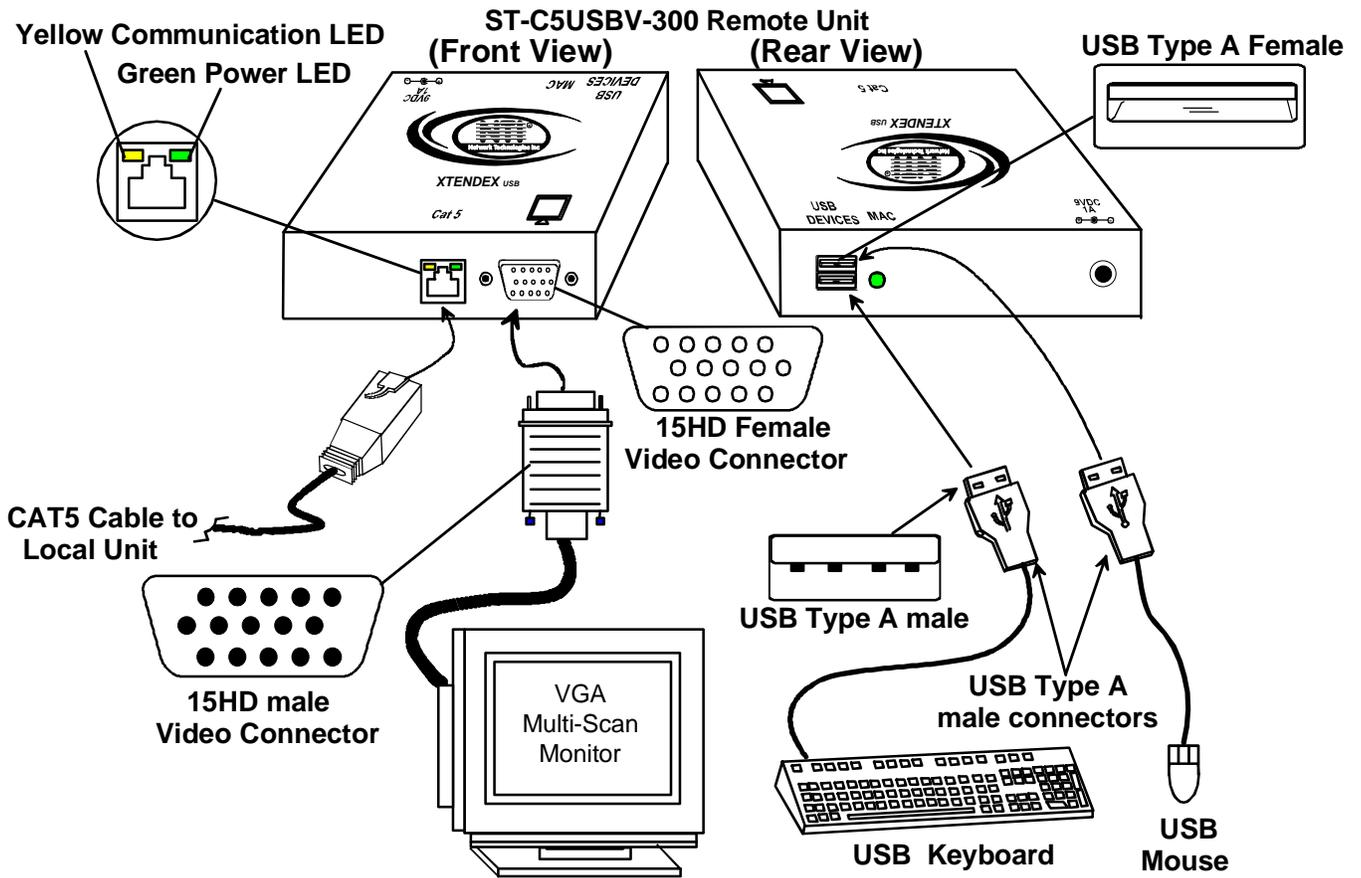

Figure 6- Connect the Monitor and Devices to the Remote Unit
1. Connect the monitor cable to the 15HD female VIDEO port on the back of the Remote Unit. (See Figure 6)